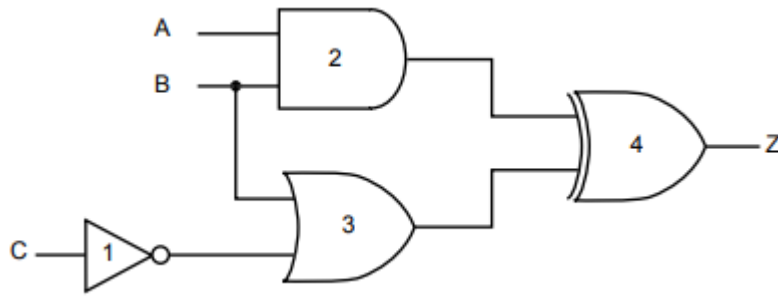

Figure 21
a) Identify the gates in Figure 21.
b) Determine the output at Z if the inputs A and B are HIGH whilst input C is LOW. Show your working by using Figure 21 or in the space below.